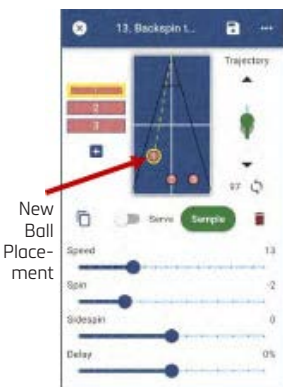

Figure 3-62
3. Using a finger, touch Ball 1 and drag it to a position closer to the center of the table. (Figure 3-62)